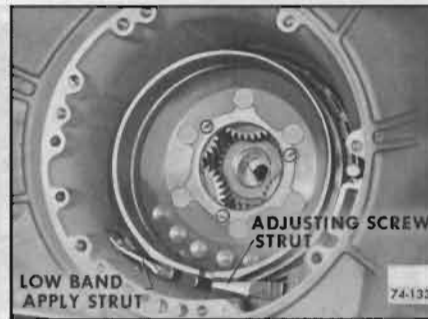

Figure 74-133
1. Remove low band and struts from inside case. See Figure 74-133.